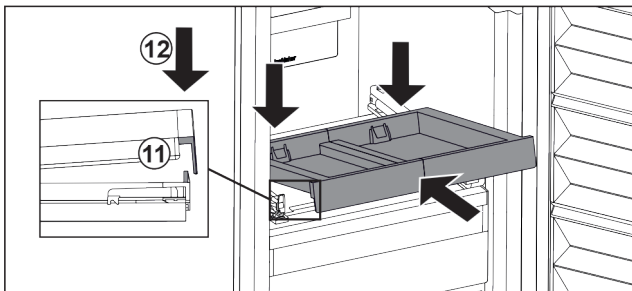

Fig. 100
- ▶ Slide it in at an angle. Make sure that the stop is behind the lug on both sides. Fig. 100 (11)
- ▶ Lower the pull-out board at the front. Fig. 100 (12)